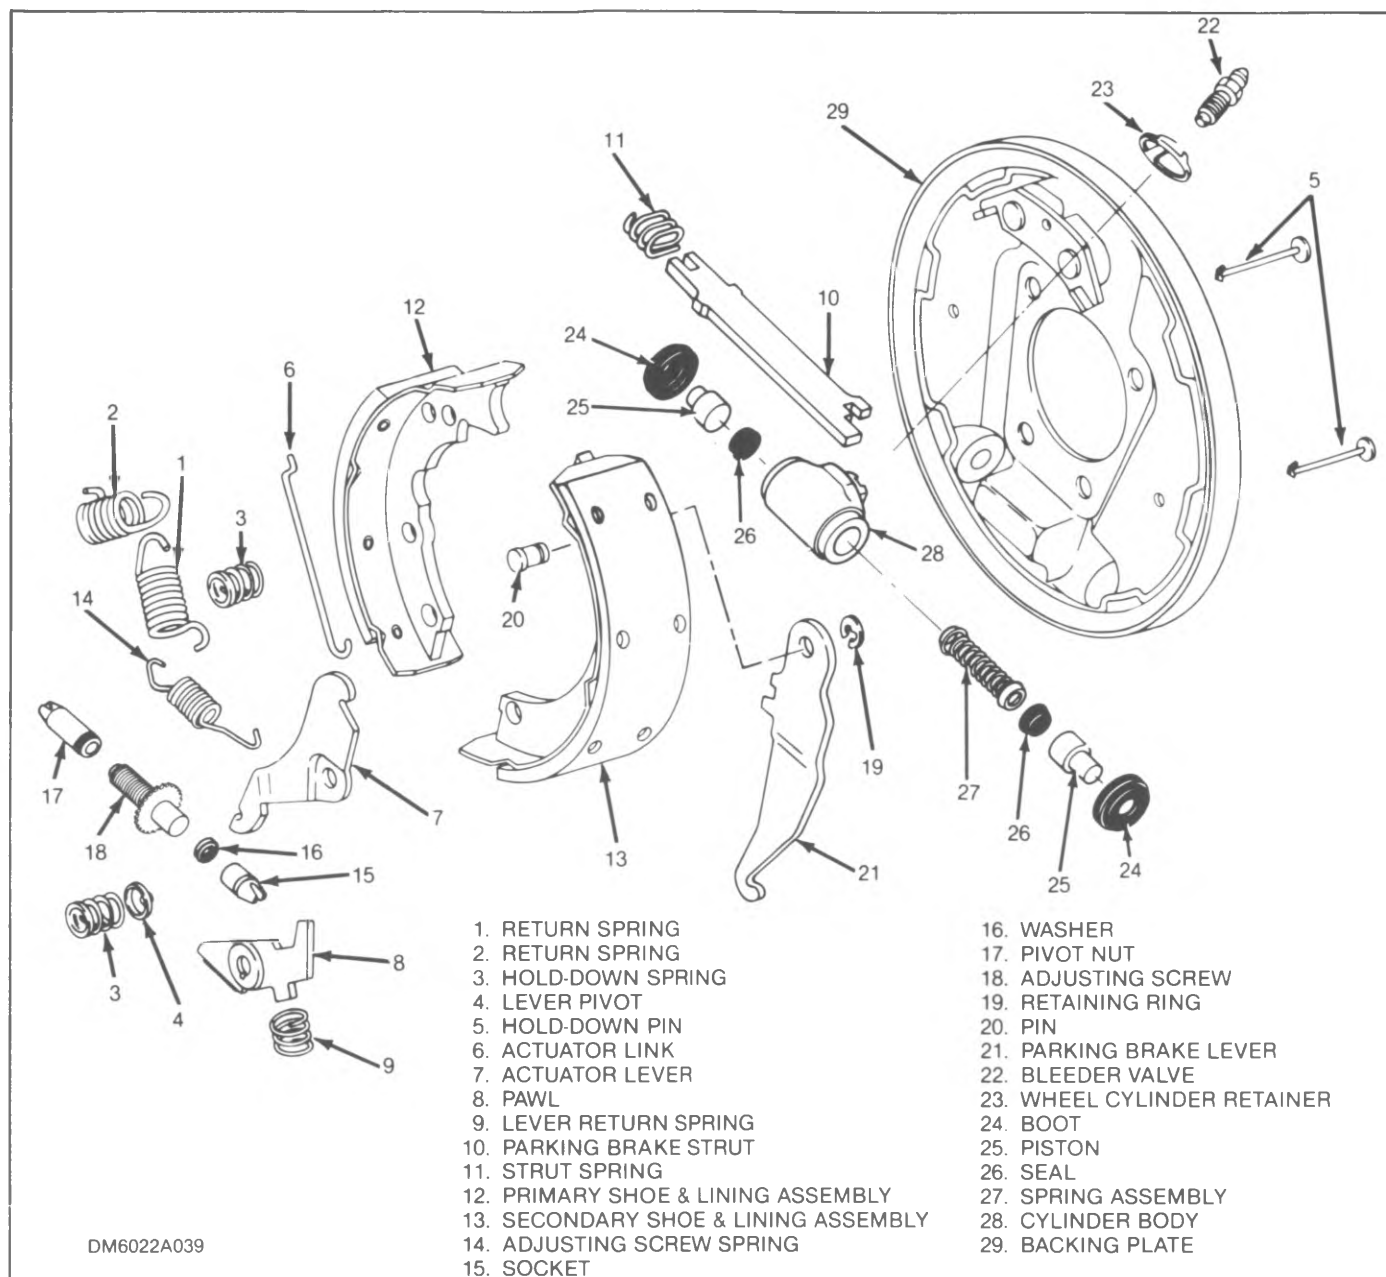
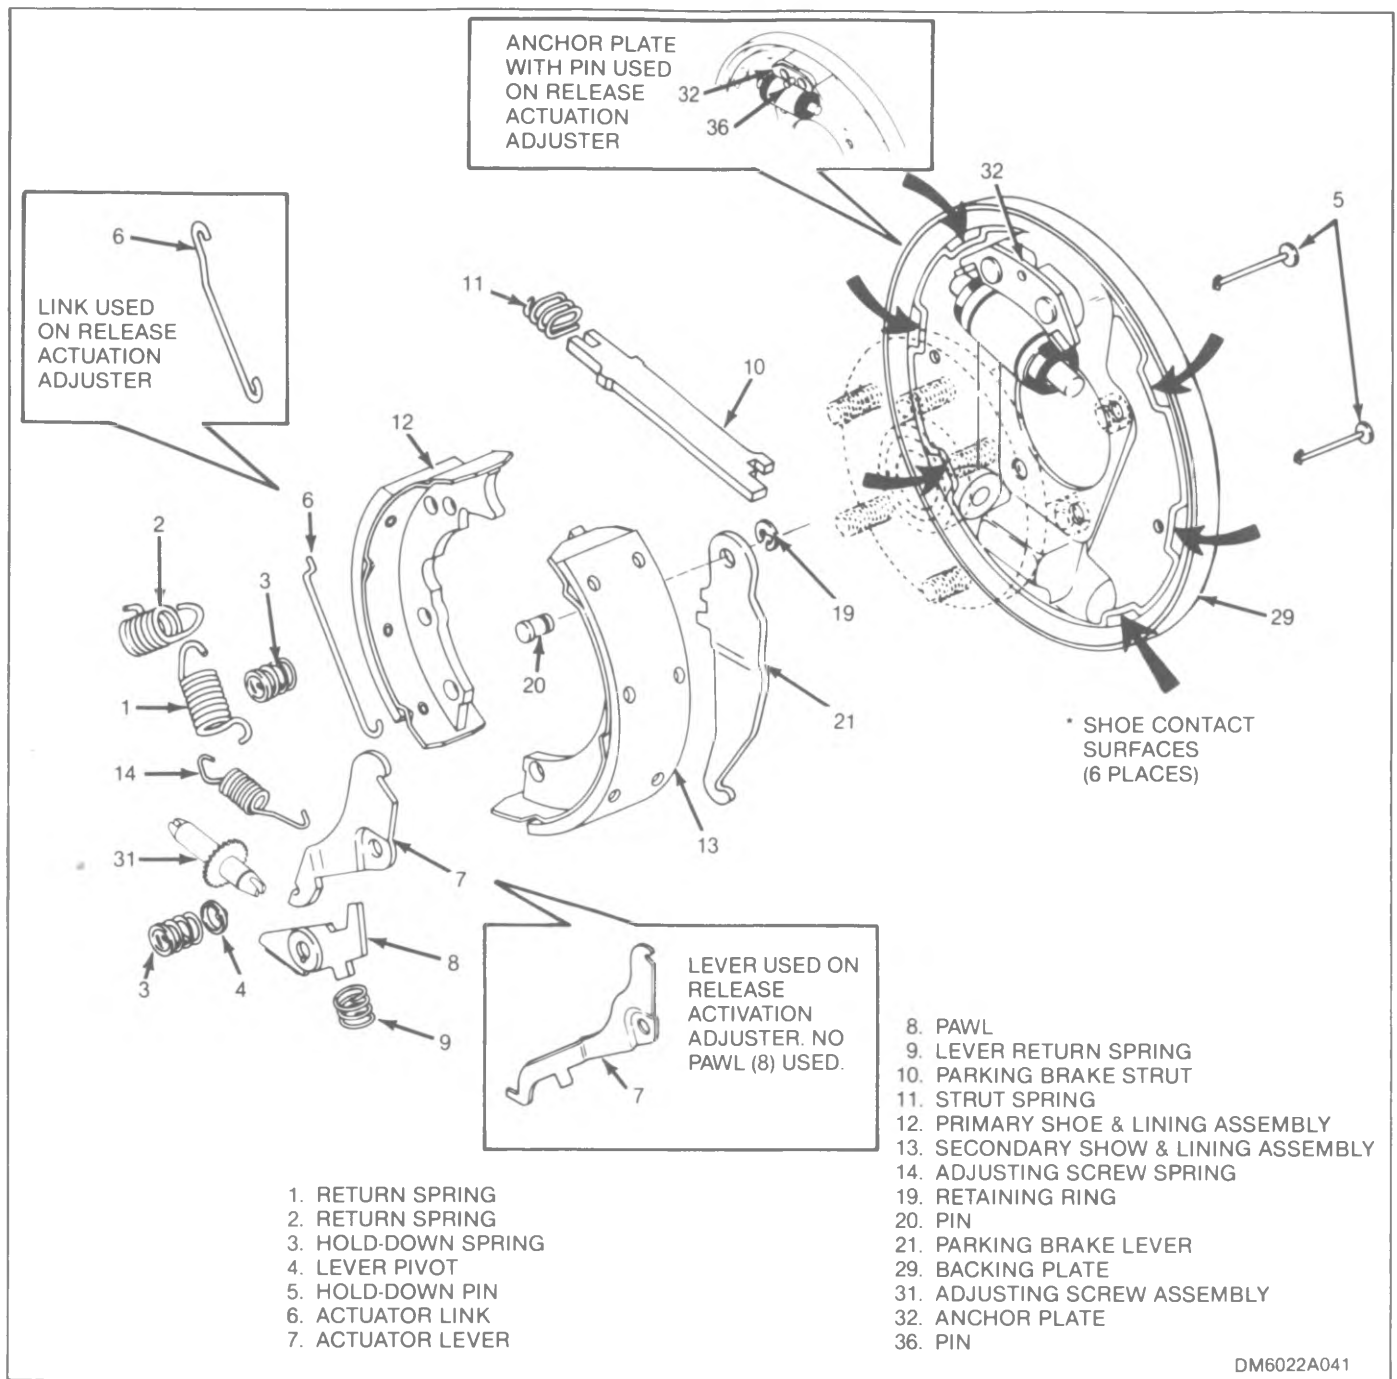
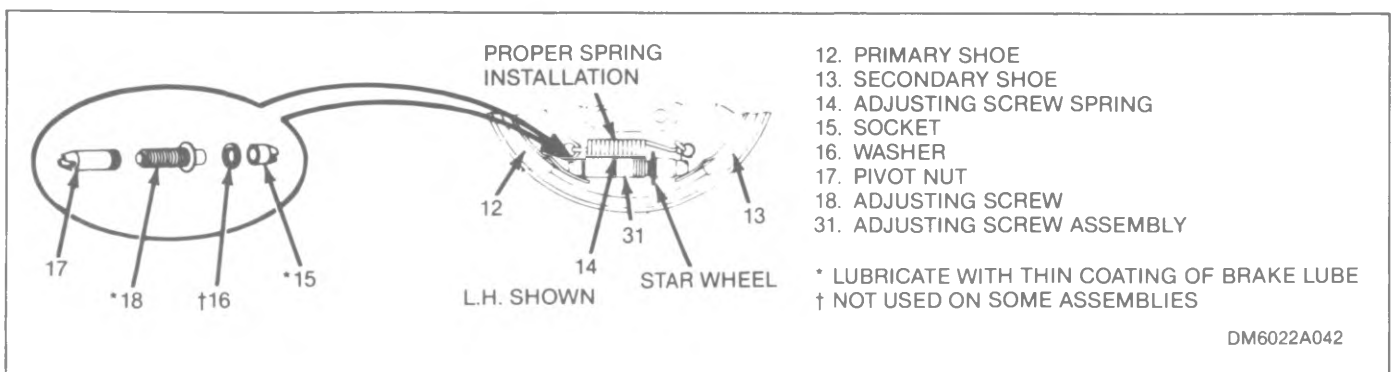

Figure 3-20. Anchor Plate Drum Brake With Apply Actuated Adjuster
Figure 3-22. Brake Components
Figure 3-23. Adjusting Screw and Spring
3-21. ANCHOR PLATE DUO-SERVO DRUM BRAKE. Refer to figures 3-20 and 3-21 for identification of parts for the anchor plate drum brakes. The actuator lever variations shown are described in paragraphs 1-8 thru 1-10. After removing brake drums (refer to paragraph 3-14), proceed as follows to remove and replace brake shoes and hardware components (see figure 3-22):
15. Disassemble adjusting screw assembly (see figure 3-23) and clean parts in clean denatured alcohol. Make sure that the adjusting screw threads into the pivot nut over its complete length without sticking or binding. Check that none of the adjusting screw teeth are damaged.
16. Apply brake lube to adjusting screw (18) threads, inside diameter of socket (15) and socket face. Adequate lubrication is achieved when a continuous bead of lubricant is produced at open end of pivot nut (17) and socket after parts are assembled and threads fully engaged. Install washer (16) if found on unit at disassembly.
18. Install parking brake lever (21, figure 3-22) to secondary shoe (13) using pin (20) and retaining ring (19).
19. Install adjusting screw assembly (31) and spring (14) between shoes (12 and 13) as shown in figure 3-23. Coils of spring must not be over star wheel. Left and right hand springs are different. Do not interchange.
20. Spread brake shoes (12 and 13) to clear axle flange, connect parking brake cable to lever (21), and install parts on backing plate (29).
21. Install parking brake strut (10) and strut spring (11) by spreading shoes (12 and 13) apart.
22. Make sure strut (10) is properly installed. End without spring (11) engages parking brake lever (21). End with spring engages opposite brake shoe.
23. Install actuator lever (7), pawl (8) (where used) and lever return spring (9).
24. Lubricate lever pivot (4). Install hold-down pins (5), lever pivot and hold-down springs (3).
25. Install actuator link (6) in anchor plate (32) (apply actuation adjuster) or hook onto anchor plate pin (36) (release actuation adjuster).
26. Lift up actuator lever (7) and hook link (6) into lever.